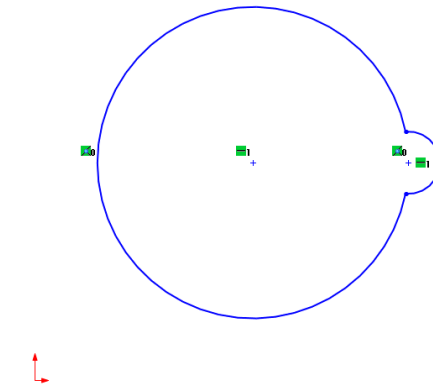

Figure 3-77 Sketch after trimming the unwanted entities
- Draw the outer loop of the sketch, refer to Figures 3-77 and 3-78.
11. Trim the sketch such that it looks similar to the one shown in Figure 3-77. Exit the **Trim** tool.